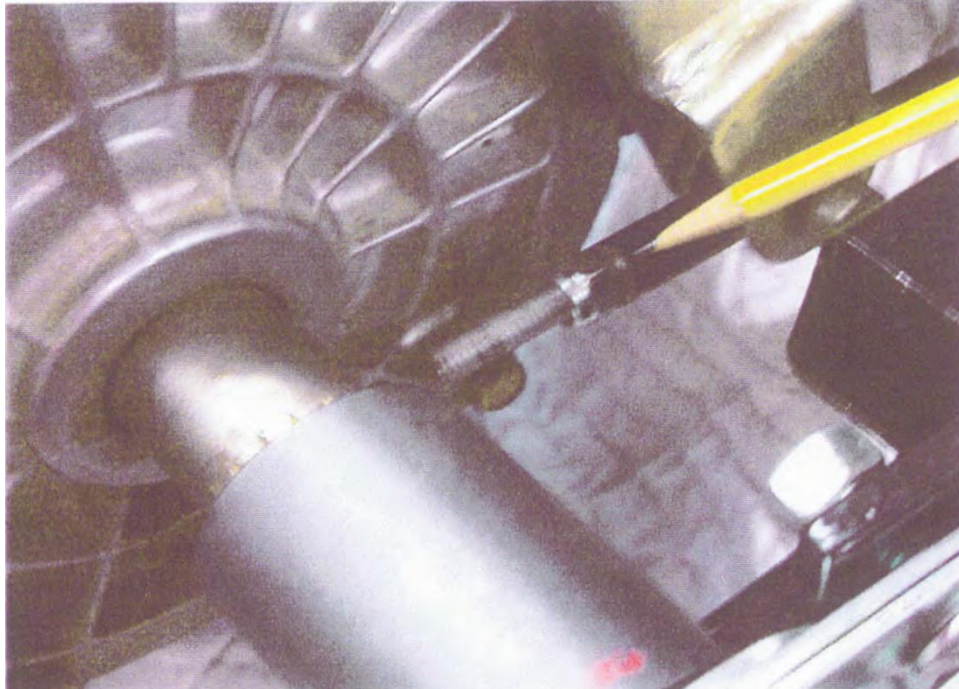

Figure 1
Brake Adjustment (Figure 1)
3. Tighten nut shown in Figure 1 as necessary.